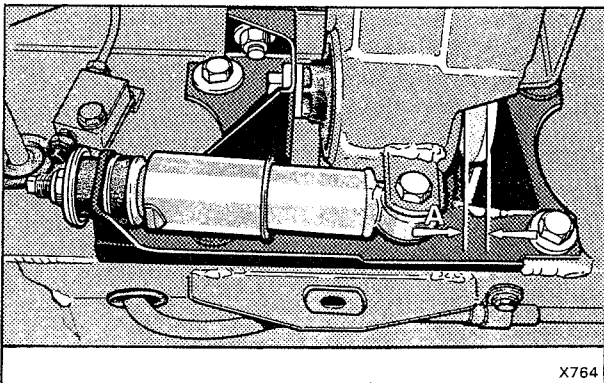

Fig. H7m Rear crossmember mount and damper
16. Fit the long mounting bolt with the washers positioned as shown in figure H7m.